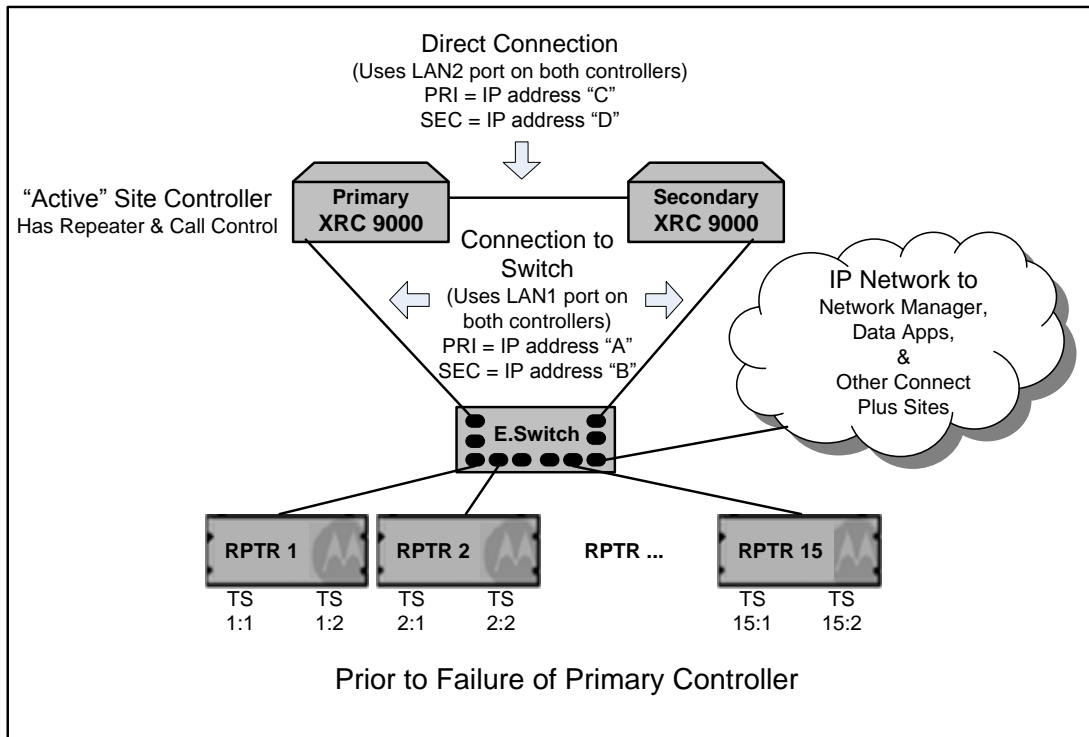

Figure 4-10 Redundant Controller Configuration with Primary XRC 9000 Active
4. The Network Settings screen requires a total of 4 static IP addresses (two for each controller), as depicted in Figure 4-10 and discussed in Table 4-4.